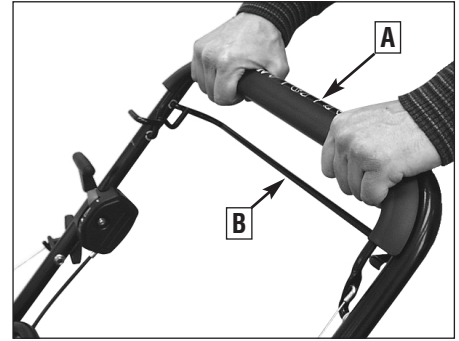

Figure 4-7 : Disengaging the wheels with engine running.
3. Pull the Wheel Drive Bail (B, Figure 4-7) up against the handlebar to power the rear wheels and move forward.
NOTE: Release the Wheel Drive Bail and continue to hold the Operator Presence Control Bail (A, Figure 4-7) to pause during mowing with the engine running, or to maneuver in tight or difficult conditions.
1. For short turns, release the Wheel Drive Bail (B, Figure 4-7) but continue to hold the Operator Presence Control Bail (A). This disengages the wheel drive, but the engine continues to run.